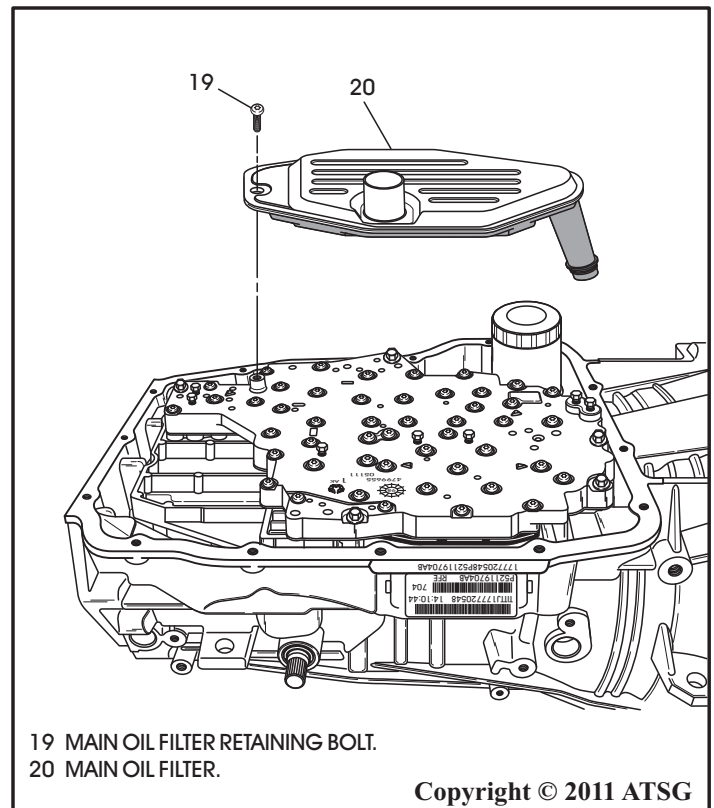

Figure 40
14. Remove the bottom pan filter retaining screw, using a 25 Torx bit, as shown in Figure 40.
15. Remove and discard the bottom pan oil filter, as shown in Figure 40.